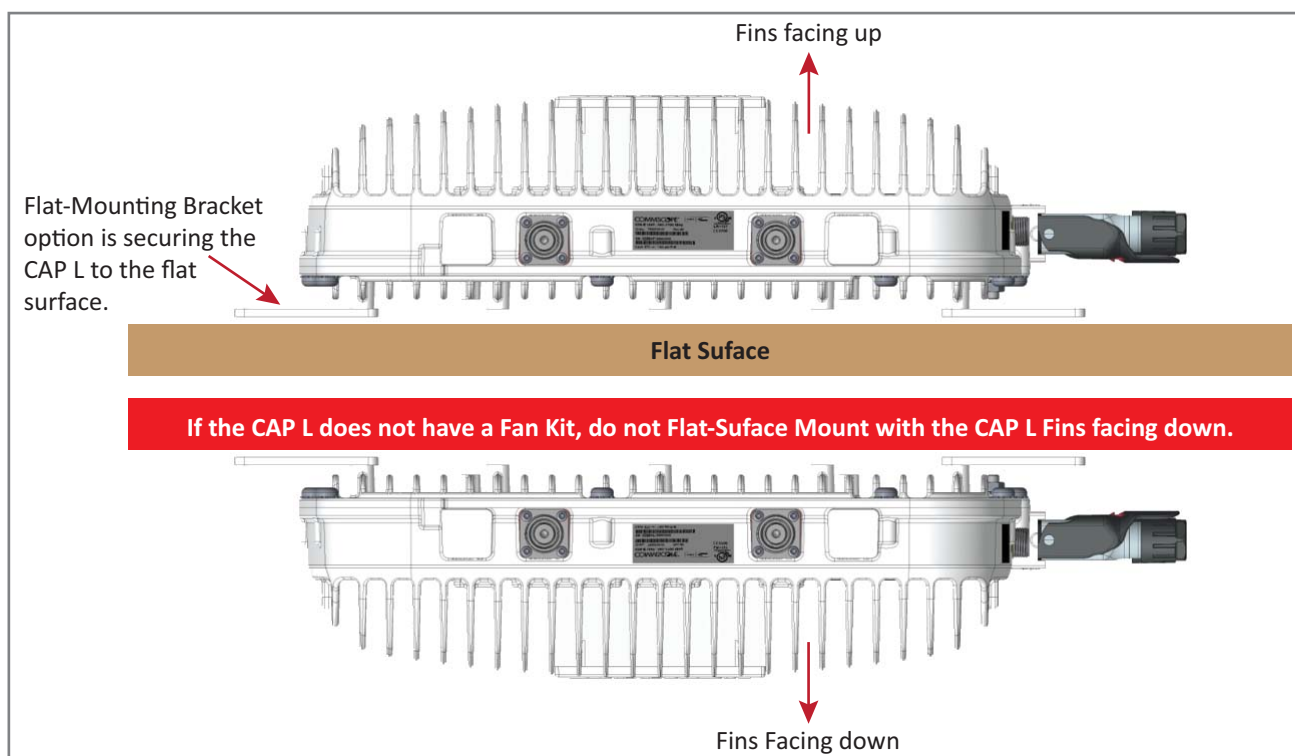

Figure 6. CAP L Orientation in Flat-Surface Mounting
-  Always mount the CAP L with its mounting option facing down against the mounting surface, and the enclosure fins facing up; see Figure 6.
-  If you are mounting the CAP L above a ceiling, its antennas must protrude below the ceiling. That is, the CAP L will be above the ceiling, but any connected WiFi units or IP cameras will be mounted below the ceiling; see Figure 6.